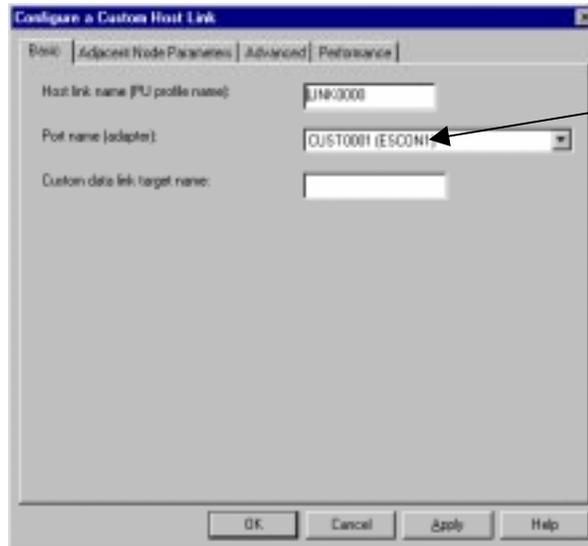

Figure 15-21. Link Configuration
4. Double click the link (LINK0000 above) to display the link’s properties (Figure 15-21).